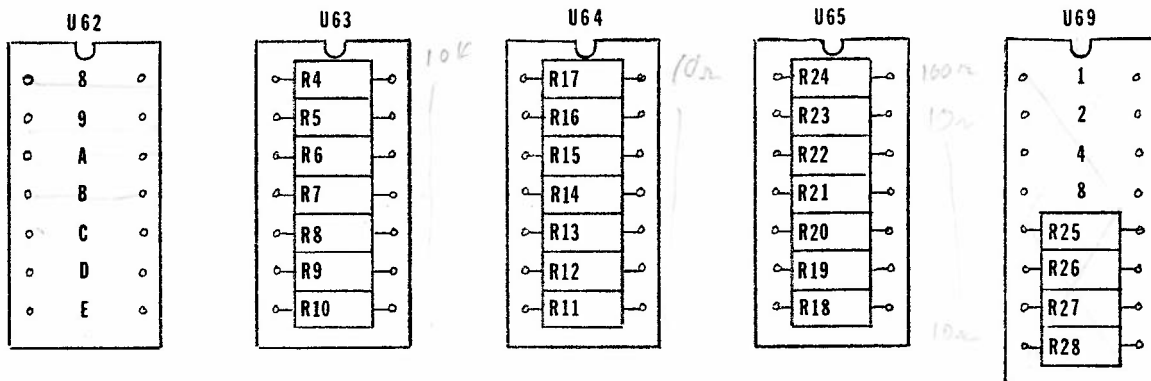

Figure A11. Resistor/jumper mounting on Component Carriers.
An extra row of pads is available at U64 and U65 to mount resistors R11-R23 (10 ohms) and R24 (100 ohms) directly to the board. If you are not using sockets/component carriers for mounting the resistors and jumpers, you should install them at this point. See Figure A11 for the details on mounting the resistors/jumpers. The jumper assignments are given in Tables 1 and 2.
IC locations U63, U64, U65 and part of U69 are for resistor pack component carriers (CC). These CC's are plastic and will melt if the pins get too hot. Figure A11 and Tables 1 and 2 show the mounting for these CC's.